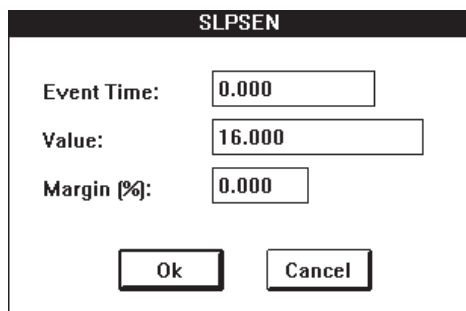

Figure 30 SLPSEN Event window
6. Select the **SLPSEN** command under the **Events** menu. A window will appear which displays a calculated value for the SLPSEN event (See Figure 30). Change the Event Time to 0.000.